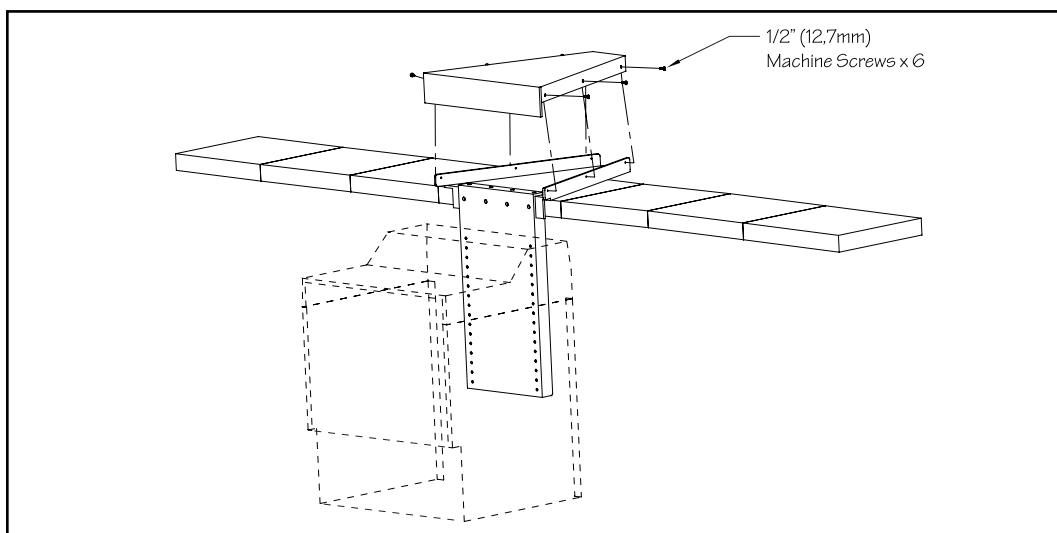

Fig. 9.4
9.7 Place the hose cover onto the hose tray and use the provided 1/2" (12,7mm) stainless steel screws to attach the cover to the tray (Fig 9.4).